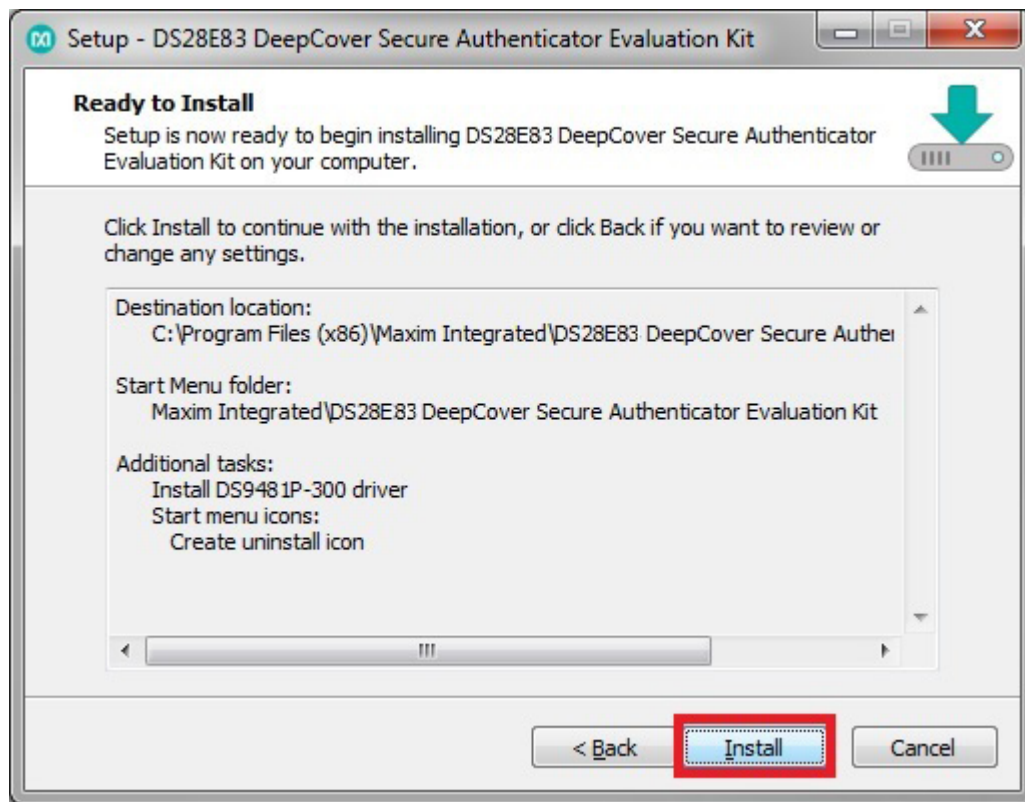

Figure 6. Ready to Install
7) Next click on **Install**. A new window pops up to show the installing progression (Figure 6).